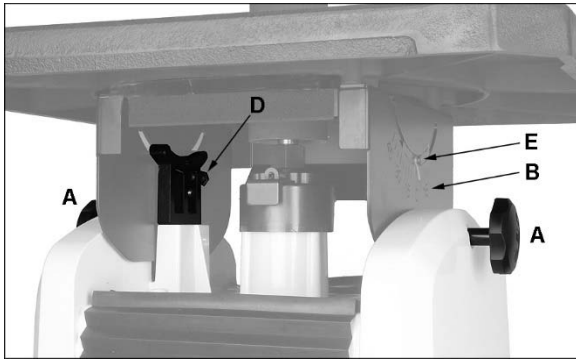

Figure 11: table tilt
Refer to Figures 11 and 12.
1. Loosen both knobs (A, Figure 11) counterclockwise.
Refer to Figures 11 through 13.